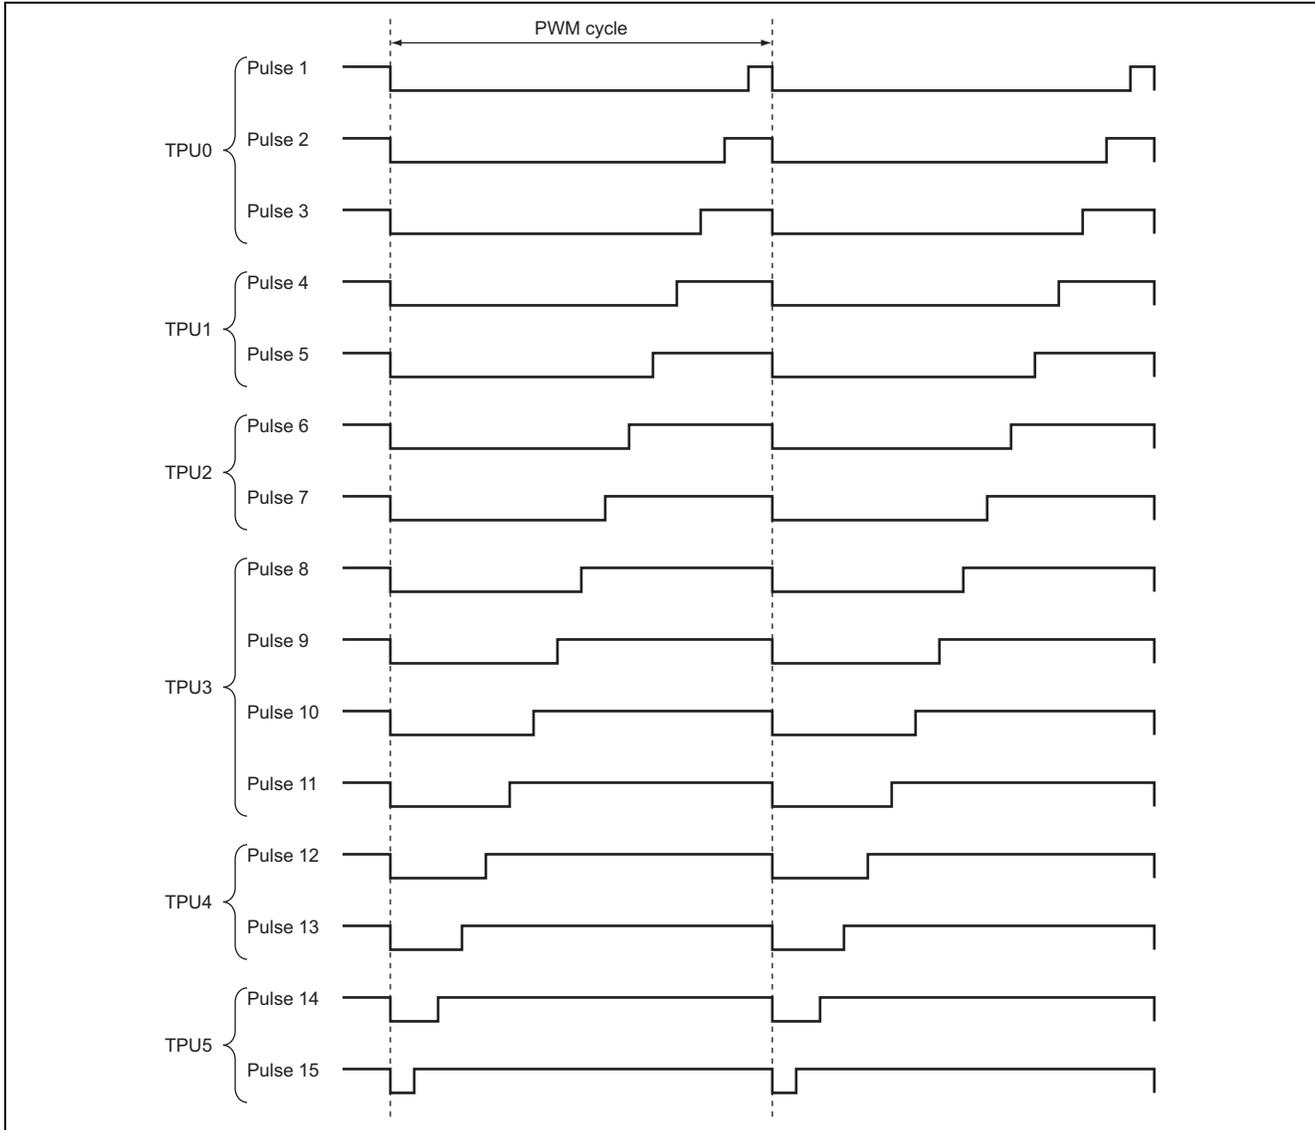

Figure 1 Example of PWM-Waveform Output
- (1) Outputs 15-phase PWM waveforms with variable duty cycles, as shown in figure 1.
- (2) In operation at 20 MHz, the period of the output PWM signal can be set to any desired value from 100 ns to 3.27 ms.